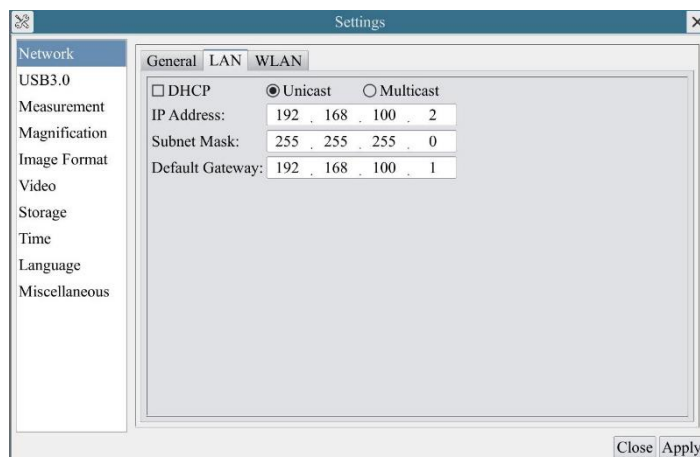

Figure 8-5 Manual DHCP and Unicast
- Figure 8-5. It's usually a private address. Private address is a non-registered address used exclusively within an organization. The internal private addresses retained are listed below: Class A 10.0.0-10.255.255; Class B 172.16.0-172.31.255.255; Class C 192.168.0-192.168.255.255. The suggested **IP address** is Class C.